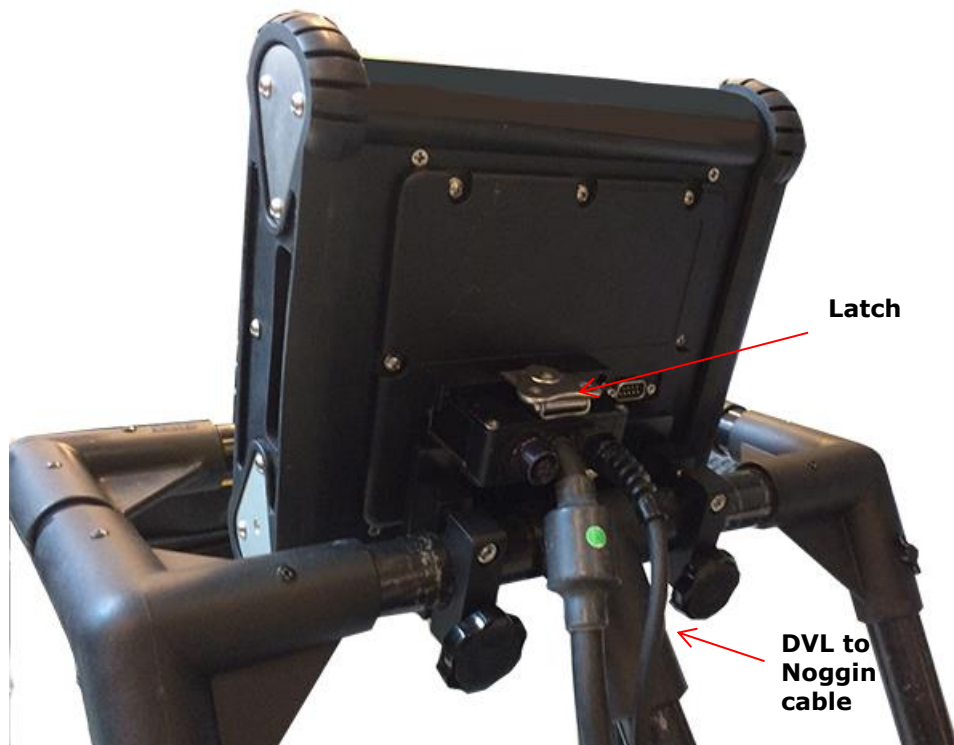

Figure 2-30: Connecting main cable to DVL
7. Once the DVL is in place, attach the 37-pin female D-connector cable to the 37-pin receptacle on the back of the DVL. Secure the attachment with the latch (Figure 2-30).
The image in Figure 2-30 displays the SmartCart 9 Amp-hr. battery. Follow the steps for placing the battery in the SmartCart: